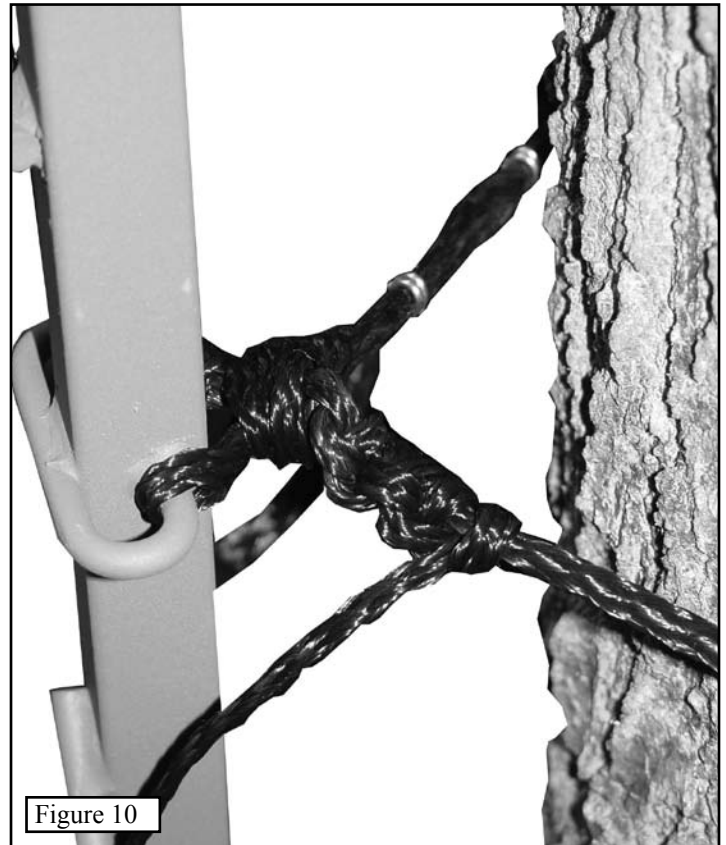

Figure 10
Step 6. Tie the loose end of rope back to itself using half hitch knots - three is sufficient. Always test each knot assembly before using! (See **Figure 10**)